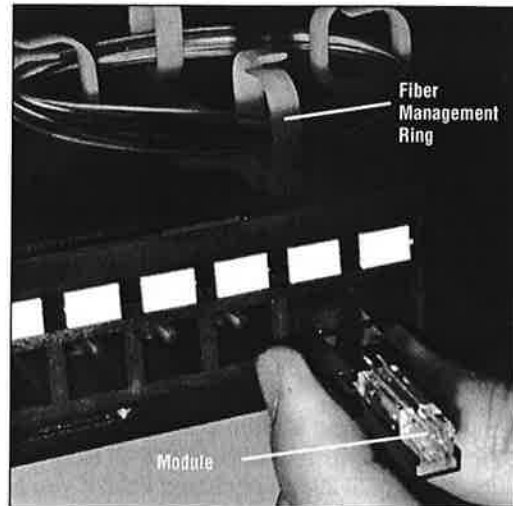

Figure 2
2. Insert the module into a front opening in the Adapter Block (see Figure 2).